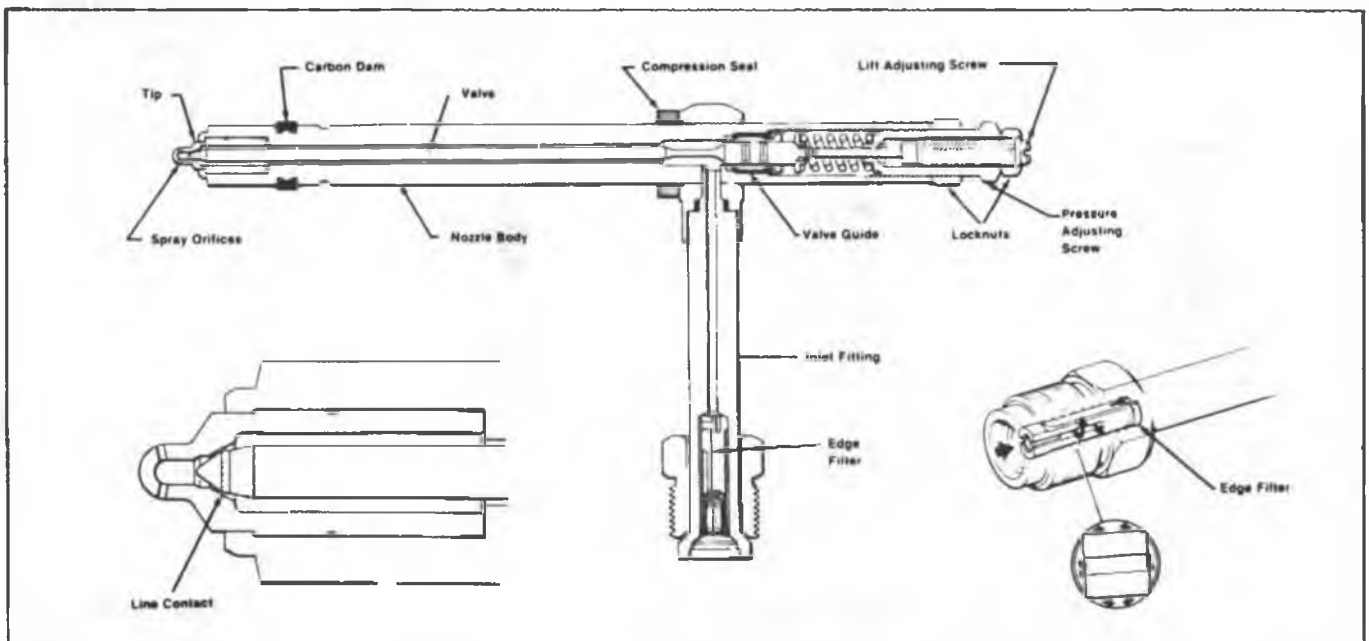

Fig. 5-19 Typical Stanadyne Pencil Type Nozzle
The pencil type nozzle (Fig. 5-19) is found on all Federal 1978 through 1981 light-duty trucks. It is a closed end (nozzle valve does not project through an opening in the nozzle tip), differential pressure, hydraulically operated, hole-type nozzle. The nozzle body incorporates the inlet fitting, tip and valve guide. An edge filter is located in the inlet fitting, which is designed to be a final screening for debris which may have entered while line was open such as while on workbench. The inward opening valve is spring loaded and controlled by the pressure adjusting screw and lift adjusting screw which are secured by locknuts. These adjustments are very critical and can only be adjusted on a flow meter. No attempts should be made otherwise. A nylon seal beneath the inlet fitting "banjo" prevents leakage of engine compression while a Teflon carbon dam prevents carbon accumulation in the cylinder head bore.
1. If a nozzle is to be reinstalled after removal, a new compression seal and carbon stop seal must be installed after removal of the used seals. See figure 5-19 for seal installation.